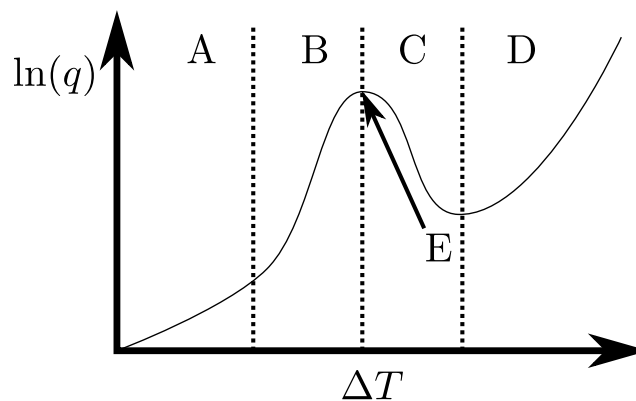

Figure 30: A typical boiling heat flux versus driving temperature difference curve.
- 11) Which region of the boiling curve in Fig. 30 is the nucleate boiling regime? **[2 marks]**
- 12) Which region of the boiling curve in Fig. 30 is the radiative boiling regime? **[2 marks]**
- 13) Which region of the boiling curve in Fig. 30 is the operation of the boiler unstable? **[2 marks]**